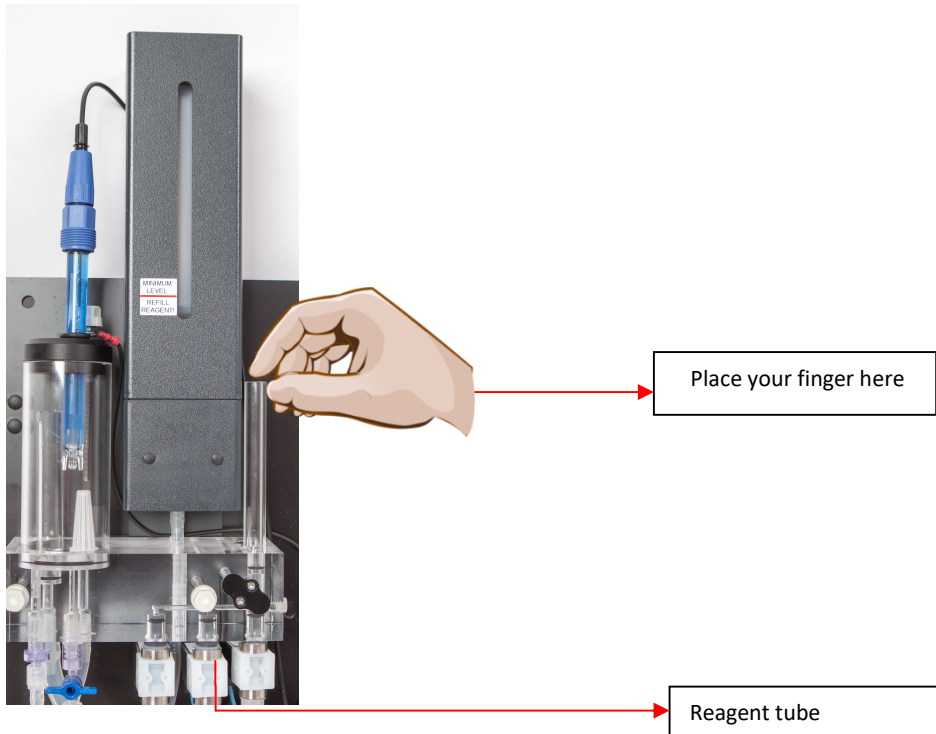

Figure 10.1.4.2.3
- You are asked to place your finger on the top of the filling tube. Do this and ensure an airtight seal. See *figure 10.1.4.2.3*.